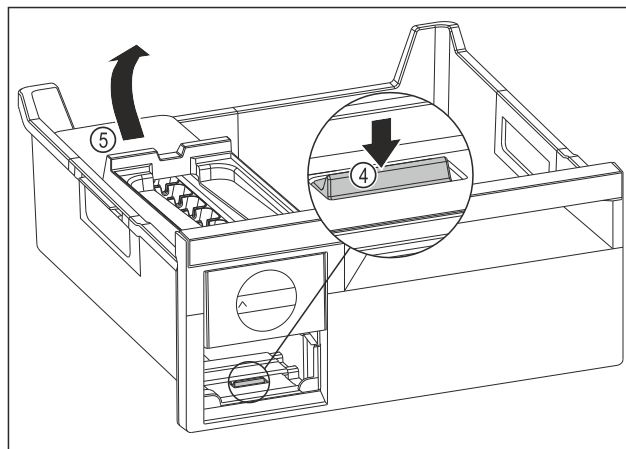

Fig. 163
- ▶ Removing the EasyTwist-Ice body: Use your finger to press the tab Fig. 163 (4) downward while at the same time lifting the EasyTwist-Ice body Fig. 163 (5) from behind with the other hand.